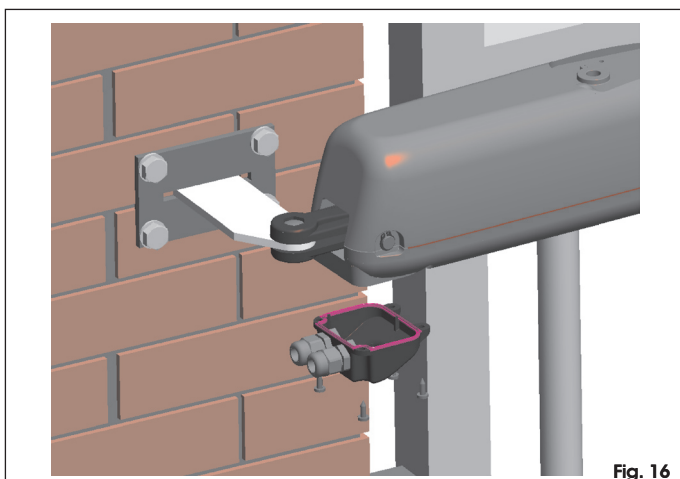

Fig. 16
4. Close the cover with the four supplied screws, Fig. 16.